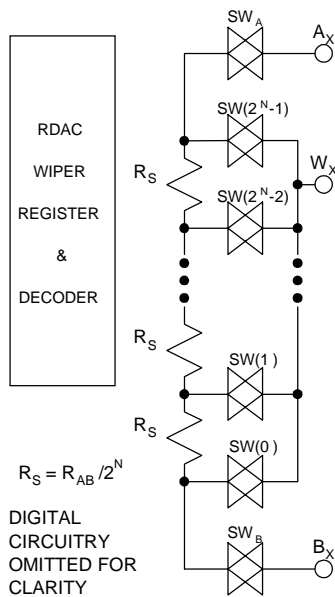

Figure 3. Equivalent RDAC structure
The actual structure of the RDAC is designed to emulate the performance of a mechanical potentiometer. The RDAC contains a string of connected resistor segments, with an array of analog switches that act as the wiper connection to several points along the resistor array. The number of points is the resolution of the device. The AD5235 has 1024 connection points allowing it to provide better than 0.5% set-ability resolution. Figure 3 provides an equivalent diagram of the connections between the three terminals that make up one channel of the RDAC. The SW_A and SW_B will always be ON while one of the switches SW(0) to SW(2^N-1) will be ON one at a time depends upon the resistance step decoded from the Data Bits. Note that there are two 50Ω wiper resistances, R_w. The resistance contributed by R_w must be accounted for when calculating the output resistance. R_w is the sum of the resistances of SW_A + SW_x and SW_B + SW_x for A-to-Wiper and B-to-Wiper respectively.
ladder until the last tap point is reached at R_{wb} = 25025Ω. See figure 3 for a simplified diagram of the equivalent RDAC circuit.